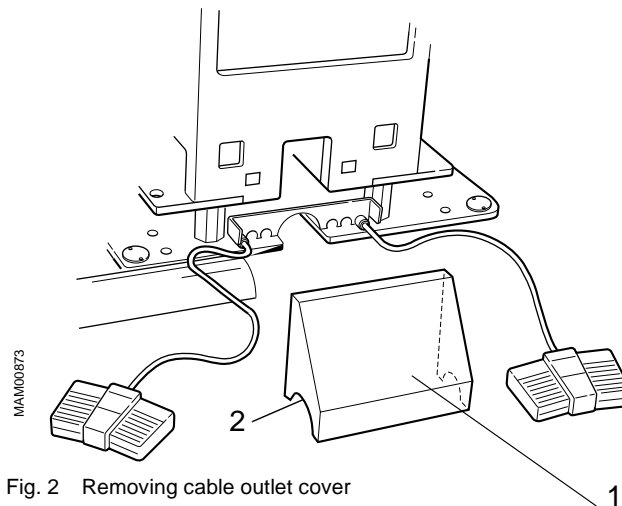

Fig. 2 Removing cable outlet cover
3. Remove the cable outlet cover at the back of the stand (pos. 1 / Fig. 2).
6. Attach additional self adhesive cable protection to the cable outlet cover (refer to pos.2/ Fig. 2).